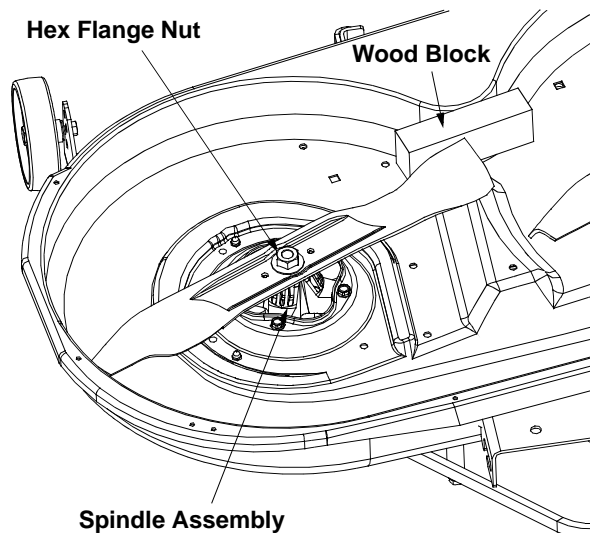

Figure 11
- Place a block of wood between the center deck housing baffle and the cutting blade to act as a stabilizer. See Figure 11 .
- Use a 15/16" wrench to remove the hex flange nut that secures blade to the spindle assembly. See Figure 11 .